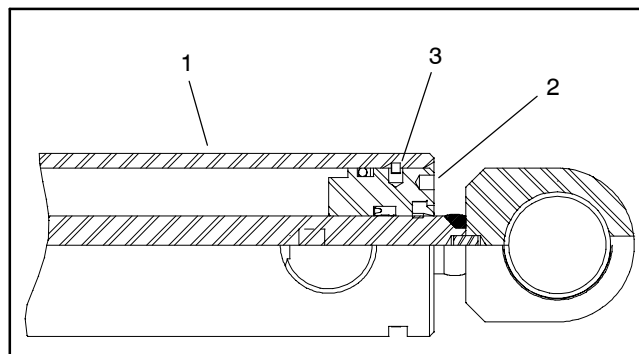

Figure 82
B. On cylinders with a retaining ring (Fig. 82), use a spanner wrench to rotate head clockwise until the edge of the retaining ring appears in the barrel opening. Insert a screwdriver under the beveled edge of the retaining ring to start the retaining ring through the opening. Rotate the head counter-clockwise to remove retaining ring from barrel and head.
B. On cylinders with a retaining ring (Fig. 82), align retaining ring hole in the head with the access slot in the barrel. Insert the retaining ring hook into the hole and rotate head clockwise until the retaining ring is completely pulled into the barrel and the ring ends are covered.